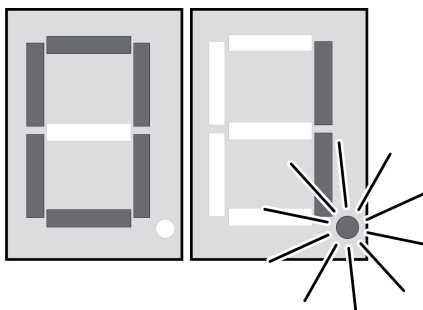

Figure 5: Assignment mode
- Press the both buttons ▲ and ▼ (12) for approx. 5 seconds. The right-hand decimal point lights up additionally in the display (Figure 5).
The right-hand decimal point lights up additionally in the display (Figure 5).